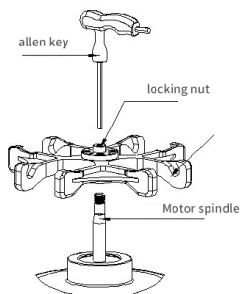

Figure 4: Schematic diagram of installing the rotor body
The steps for installing the rotor are as follows (as shown in Figures 4 and 5):
- As shown in Figure 4, prepare the rotor you want to use. Hold the rotor with both hands, point the center hole of the rotor at the spindle of the motor, put it vertically, put to the bottom of the cone, open your hands, and then press the rotor down with your hands.